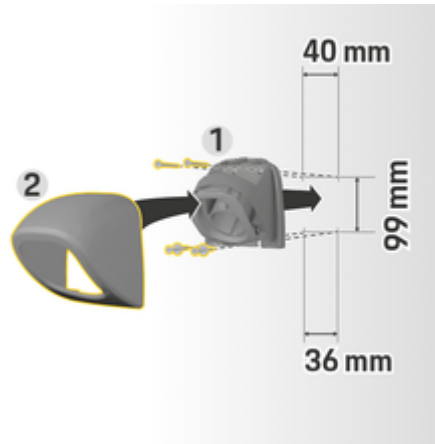

Fig. 8: Drilling dimensions
1. Remove plug holder **1** from the cover (Fig. 8) **2** (Fig. 8).
4. Screw the plug holder **1** (Fig. 8) to the wall.
5. Fit the cover **2** (Fig. 8) onto the plug holder **1** (Fig. 8) from below and press it upwards.